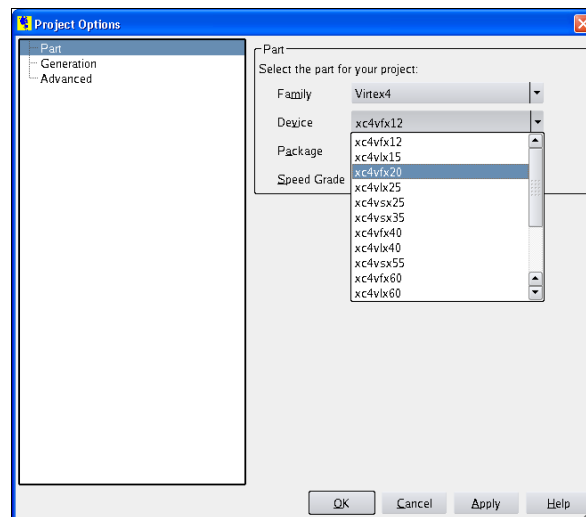

Figure 3-3: Target Architecture Setting
4. Select an appropriate package from the Package list. This example uses the XC4VFX20 device (see Figure 3-3).